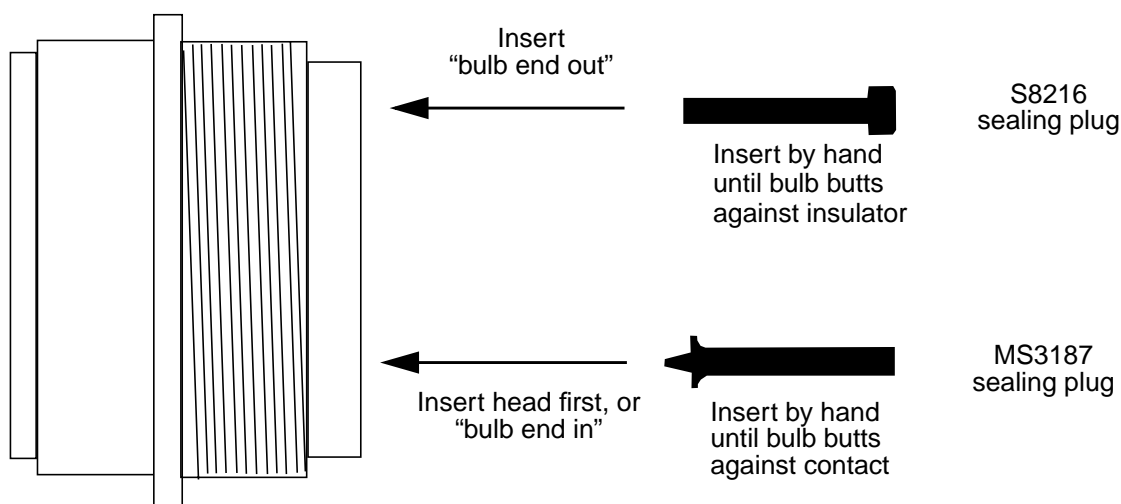

Figure 8 - Installation of S8216 and MS3187 Sealing Plugs
- 5.7.4 Plug all circular connector (e.g., MS3450, MIL-DTL-38999, etc.) grommet holes that do not contain wired contacts by inserting the plastic sealing plug specified in Table 5 as shown in Figure 8.